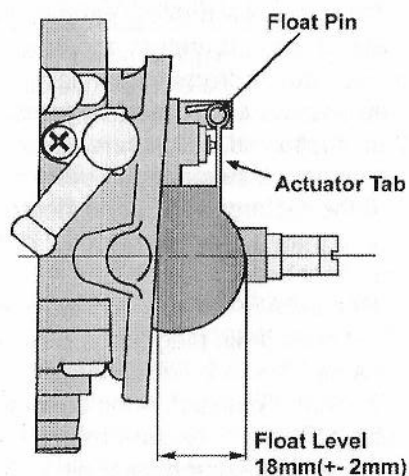

Figure T5: Float Level
1. Hold the carburetor so that the float pin is horizontal, as shown in Fig. T5 above, and the float is hanging away from the needle.